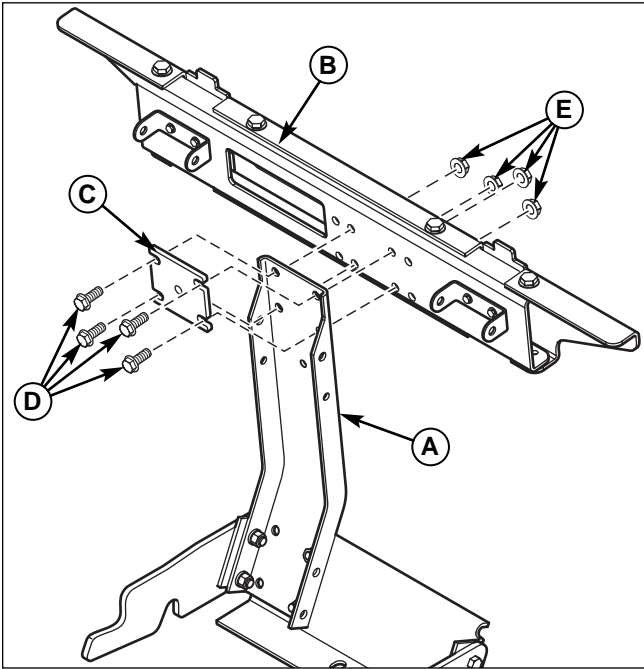

Figure 7. Install Bag and Cover Support
1. Install the bag and cover support (B, Figure 7) to upright support (A) using reinforcement plate (C) and 3/8-16 x 1 capscrews (D) and 3/8-16 locknuts (E) as shown.